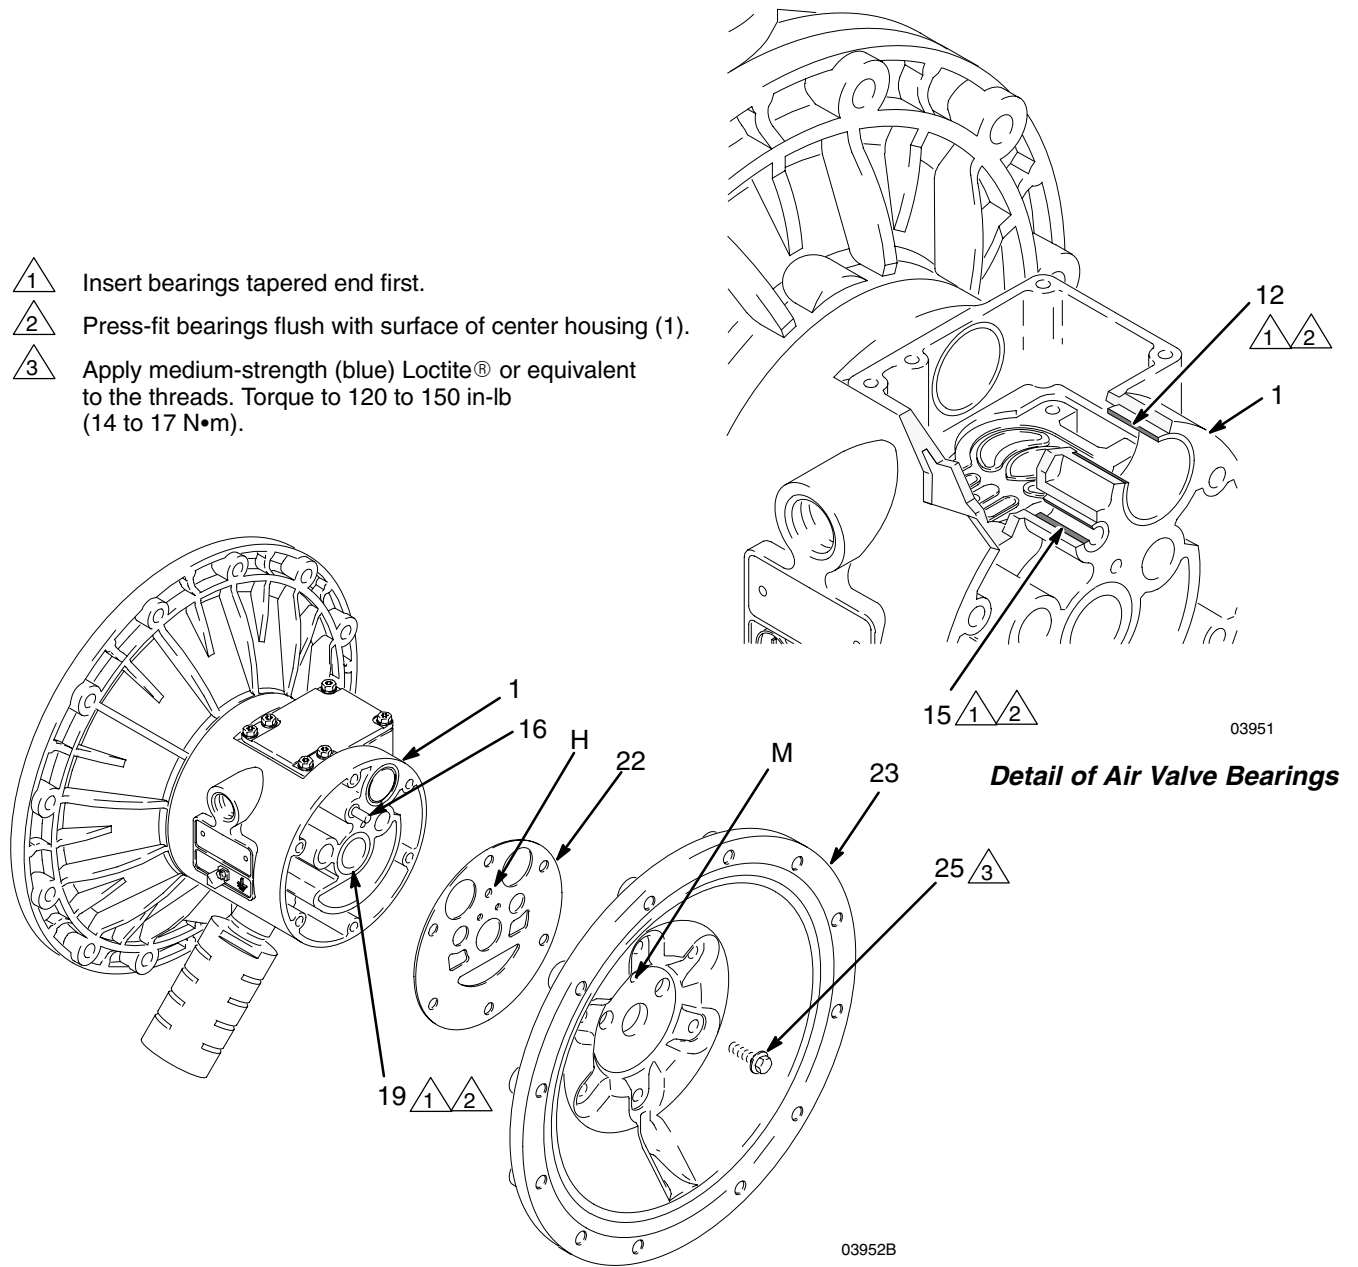

Fig. 13
**NOTE:** If you are removing only the diaphragm shaft bearing (19), skip step 4.
5. Using a 10 mm socket wrench, remove the screws (25) holding the air covers (23) to the center housing (1). See Fig. 13.
6. Remove the air cover gaskets (22). Always replace the gaskets with new ones.
7. Use a bearing puller to remove the diaphragm shaft bearings (19), air valve bearings (12) or pilot pin bearings (15). Do not remove undamaged bearings.
1. If removed, install the shaft u-cup packings (402\*) so the lips face **out** of the housing (1).
2. The bearings (19, 12, and 15) are tapered and can only be installed one way. Insert the bearings into the center housing (1), **tapered end first**. Using a press or a block and rubber mallet, press-fit the bearing so it is flush with the surface of the center housing.
4. Align the new air cover gasket (22) so the pilot pin (16) protruding from the center housing (1) fits through the proper hole (H) in the gasket.
5. Align the air cover (23) so the pilot pin (16) fits in the middle hole (M) of the three small holes near the center of the cover. Install the screws (25), handtight. See Fig. 13. Using a 10 mm socket wrench, torque the screws oppositely and evenly to 120 to 150 in-lb (14 to 17 N•m).